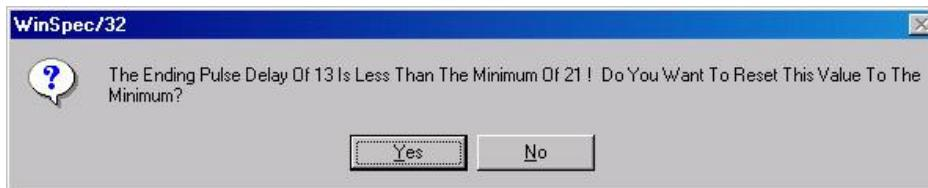

Figure 191. Range Limits Exceeded Warning
**Check Gate Width and Delay Min/Max (Message Displayed):** If this box is checked and you specify a gate width or delay outside the allowable range, a warning message (Figure 191) will be displayed. Clicking **Yes** will cause the parameter in question to be set to the limit value. Clicking **No** will cause the parameter *setting* to be retained, but the *actual* value will still be the applicable minimum or maximum. If the box isn't checked, the applicable minimum or maximum will be established automatically.